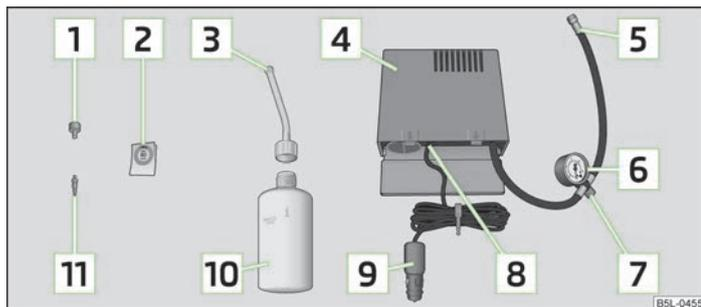

Fig. 160 Components of the breakdown kit
- > Stick the sticker [2] » Fig. 160 on page 195 in view of the driver.
- Forcefully shake the tyre inflator bottle **10** » Fig. 160 on page 195 several times.
- Screw the tyre inflation hose **5** » Fig. 160 on page 195 of the air compressor firmly onto the tyre valve.